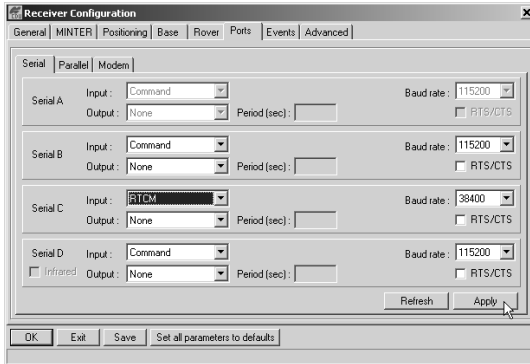

Figure 3-13. Rover Configuration – Ports
6. Select the **Ports** tab and set the following parameters for Serial C (Figure 3-13 on page 3-21):